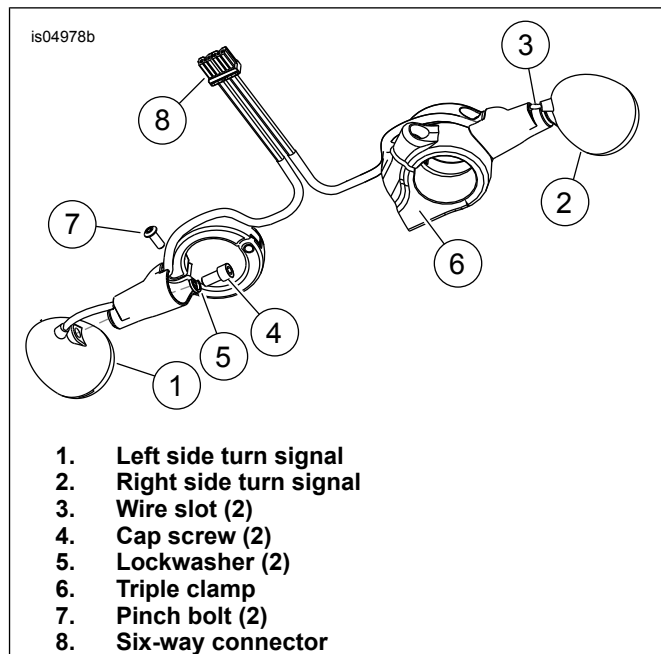

Figure 2. Installation of Mounting Bracket and Wire Harness (View From Underside)
See Figure 2. The harness exiting the turn signal lamp has a flat cross-section, similar to the slot (3) near the lamp end of the stalk.
1. See Figure 2. Carefully feed the length of wire from the turn signal lamp into the stalk through the wire slot (3).
7. See Figure 2. Install the socket terminals from the turn signal harnesses into the lamp-side black 6-way Multilock connector half [31B] per the service manual. Unless noted differently on removal,